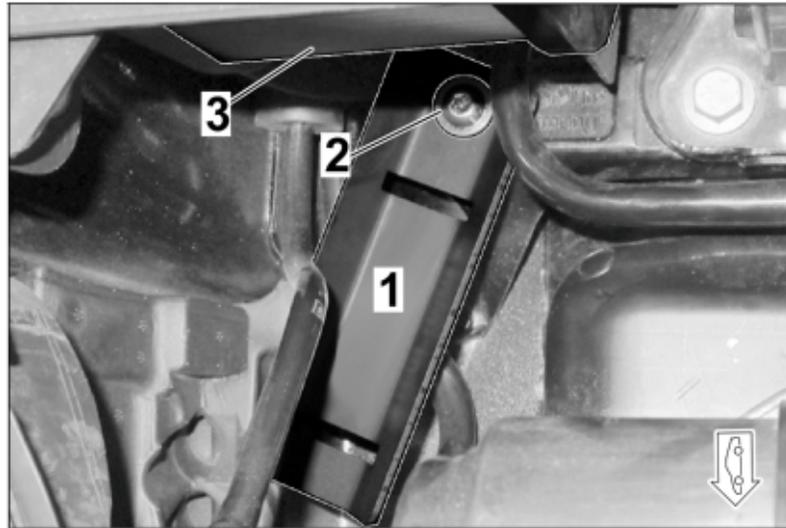

Figure 15
13. – To fasten the pressure cell of the right-hand damper, the holder \Rightarrow Figure 15 -1- is mounted on the thread \Rightarrow Figure 15 -2- shown below the inner air filter \Rightarrow Figure 15 -3- using the supplied pan-head screw. Fasten the pressure cell to the holder with two cable ties. **Pan-head screw: Tightening torque 23 Nm (16.96 ft-lb)**